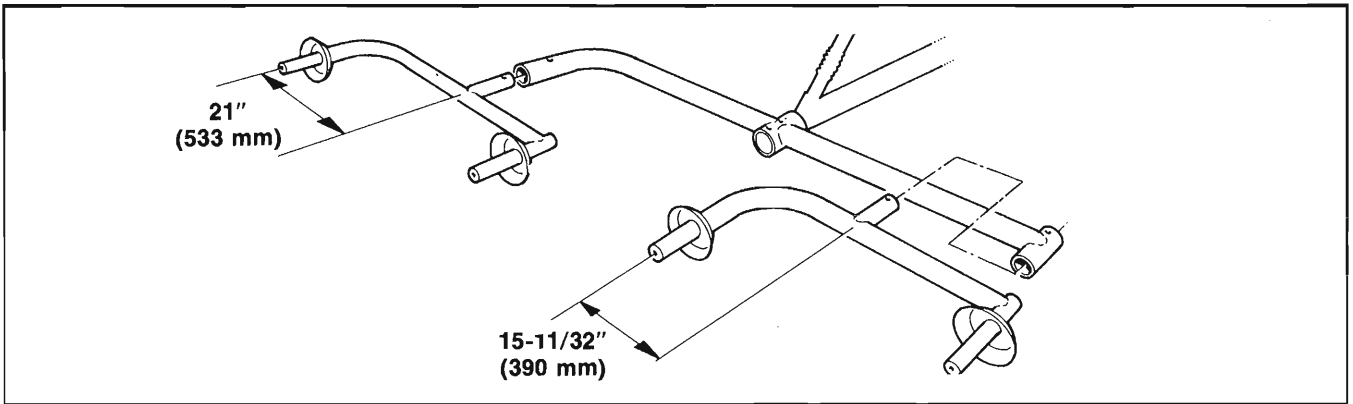

Fig. 4
6. Apply grease to the pivot points of the Finger Wheel Carriers and push them into the Sockets on the Main Turning Bar as shown in Fig. 4. Secure the Carriers with the Pins provided in the manner shown.